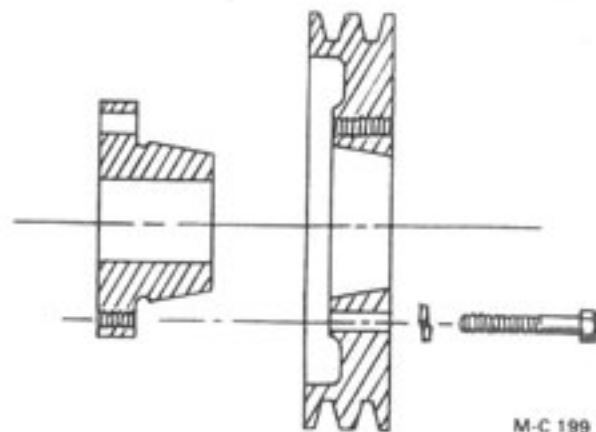

Figure 6
5. Place the bushing into the pulley from the rear so that the bushing flange is to the inside, see Figure 6. The bushing and the bore of the pulley are tapered. Be sure to install the bushing into the large ID of the pulley tapered bore. If the bushing is installed into the small ID of the pulley, the pulley hub will crack when the mounting capscrews are tightened.